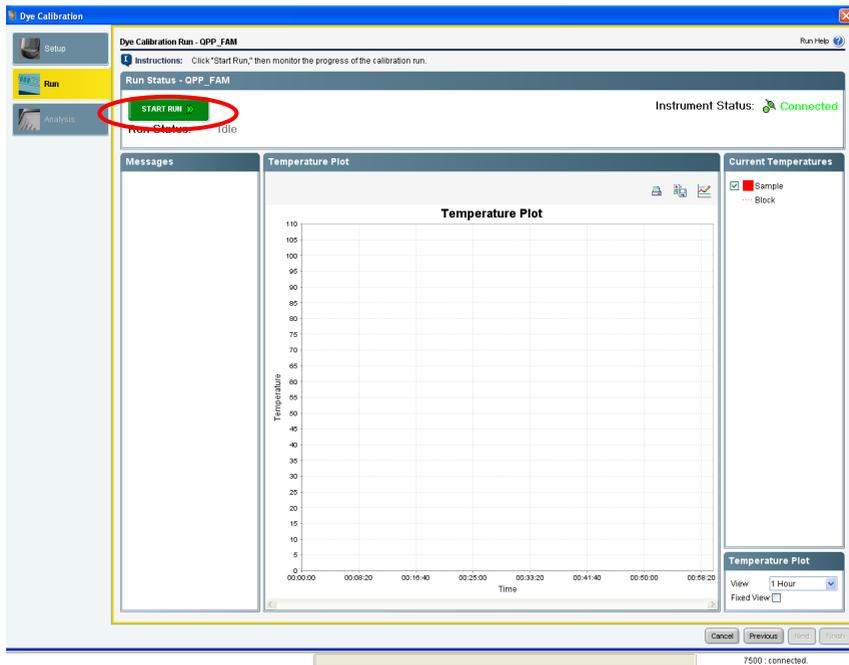

Figure 20. Starting calibration run.
9. Click **Next** and then **Start Run** (Figure 20).